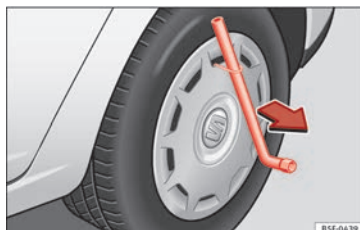

Fig. 79 Remove the wheel cover.
- Remove the wheel cover using the wire hook » Fig. 79.